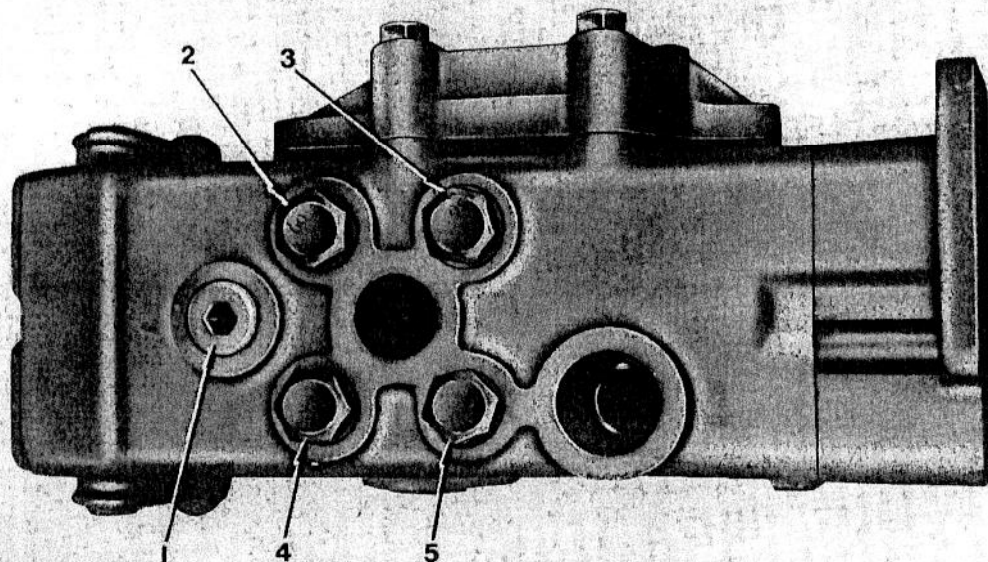

FIG. 7
9. Replace the boom check valve (3), spring (2) and check valve body (1), renew the 'O' ring on the check valve body.
10. Replace the four circuit relief valves and the main relief valve, ensuring that they are fitted in their correct positions as shown in Fig. 7. Renew the 'O' ring on each valve.
11. (Fig. 7). Refit the restrictors in each of the ports connected to the head side of the rams. The restrictor with the largest hole dia. 0.205 in. (5 mm), is fitted in the lift ram port. The other restrictor with hole dia. 0.125 in. (3 mm) is fitted in the bucket ram port.
KEY TO FIG. 7